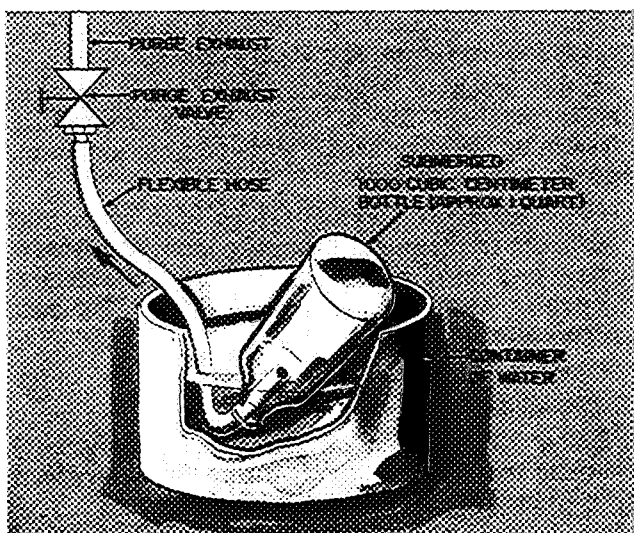

Fig. 22 – Collecting Noncondensables
3. Fill a 1,000 cubic centimeter (or equivalent) bottle with water and invert it in a clean container filled with water (Fig. 22).